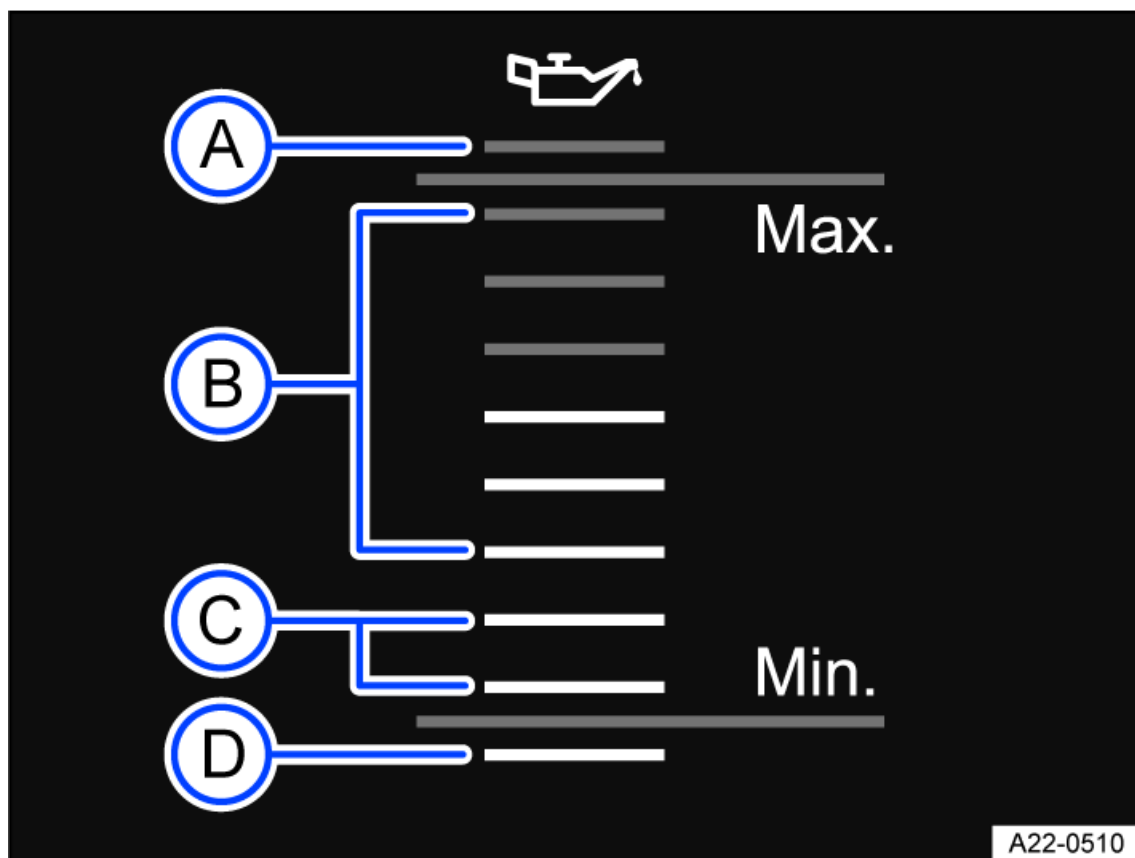

Fig. 160 In the Infotainment system: oil level display (general example).
4. Read the oil level on the digital oil level display again before adding a little more. When you are done adding oil, the oil level should be in the center of area *fig. 160* .
5. If you accidentally add too much engine oil and the engine oil level is in the area above *fig. 160* , do not start the engine ⇒ . Contact an authorized Volkswagen dealer or authorized Volkswagen Service Facility for assistance.